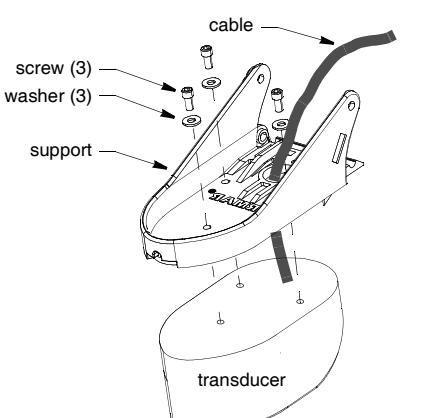

Figure 3. Assembling the transducer
1. Thread the cable through the large hole in the transducer support (see Figure 3).